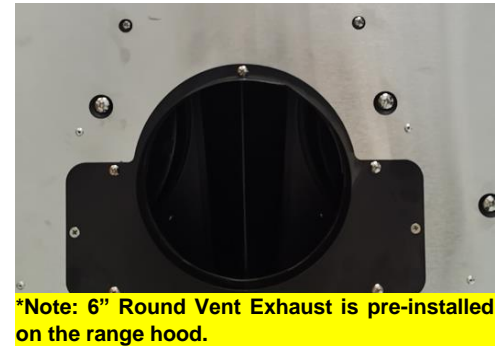

Figure 1
8. For Top 6" Round vent installation: The 6" Round vent is already attached. (Refer to Figure 1)